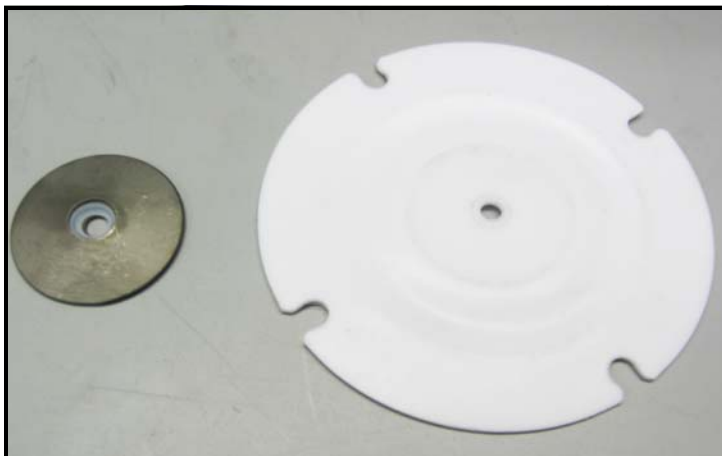

Figure 78: Installing the New Diaphragm and Clamping Plate
10. Install the new diaphragm and mount the clamping plate. Before inserting the diaphragm cap screw, apply a PTFE washer seal (see Figure 78, labeled G) (do not use PTFE tape), then tighten the 5/32" screw to approximately 70 in-lbs using a 5/32" Allen wrench.